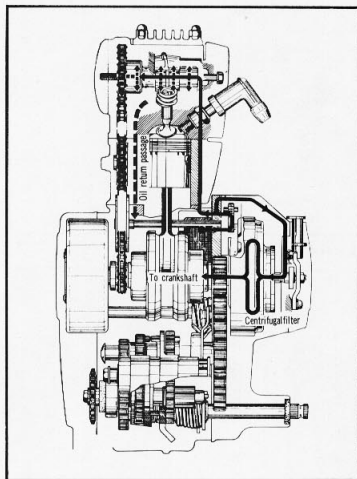

Figure 3-8. Pressure lubrication diagram
- (1) Right crankcase → passageway in the right crankcase cover → centrifugal filter → to lubricate the crankshaft and associated parts.
- (2) Right crankcase (upper part of the oil pump) → through the cylinder stud bolt (right lower side) → into the rocker arm side cover → sprayed from the four oil holes in the camshaft → to lubricate the respective sections of the cylinder head → into the oil return hole at the lower end of the exhaust valve and returns to the crankcase. The oil that passes through the camshaft lubricates the cam chain and returns to the crankcase. In this way, the lubrication of the engine is performed by the two oil routes and the oil spray in the crankcase. (Fig. 3-8)